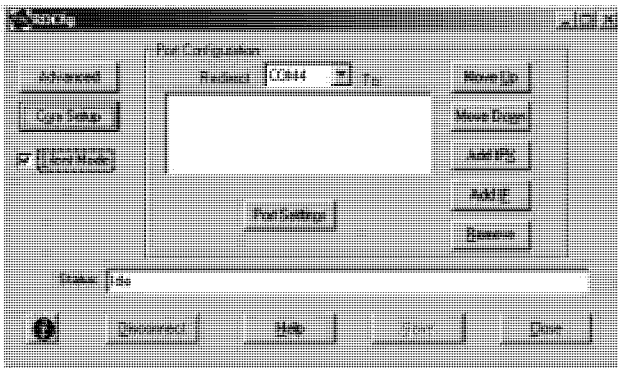

Figure 26: Silent Mode Checked in the RDCfg Window
4. To hide the pop-up window, check **Silent Mode** on the Com Port Redirector Configuration window (Figure 26).